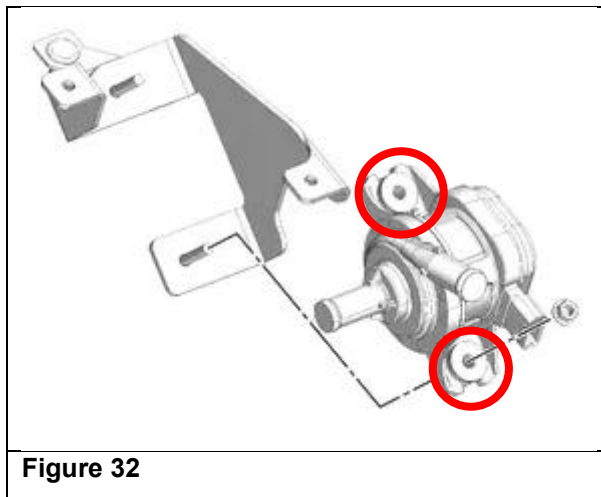

Figure 32
67. Remove the EV motor cooling system water pump from the bracket by removing the two (2) nuts. (See Figure 32.)